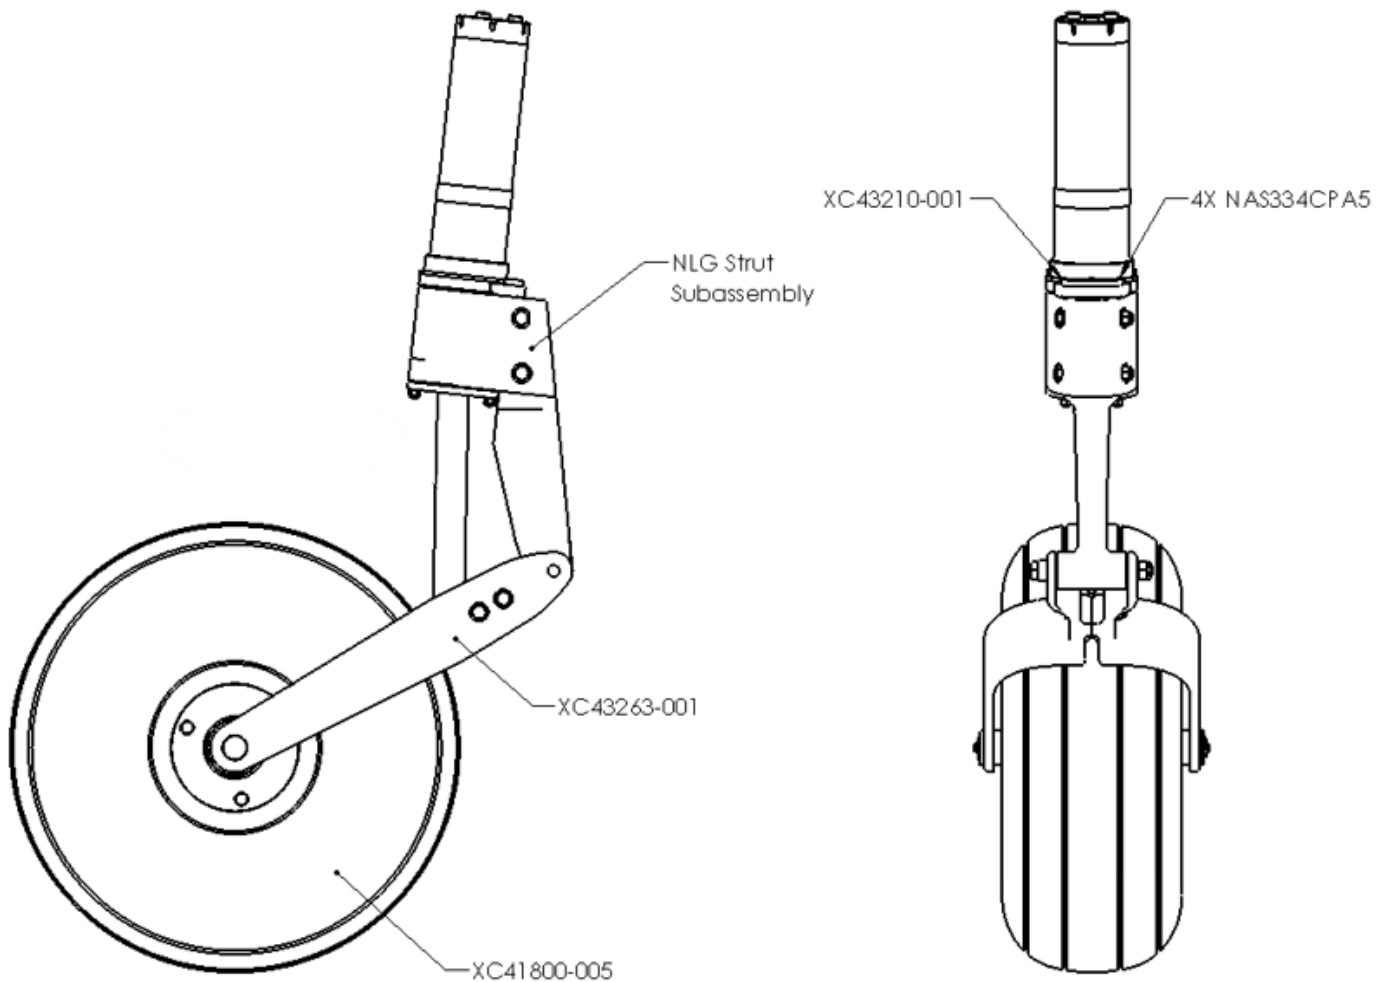
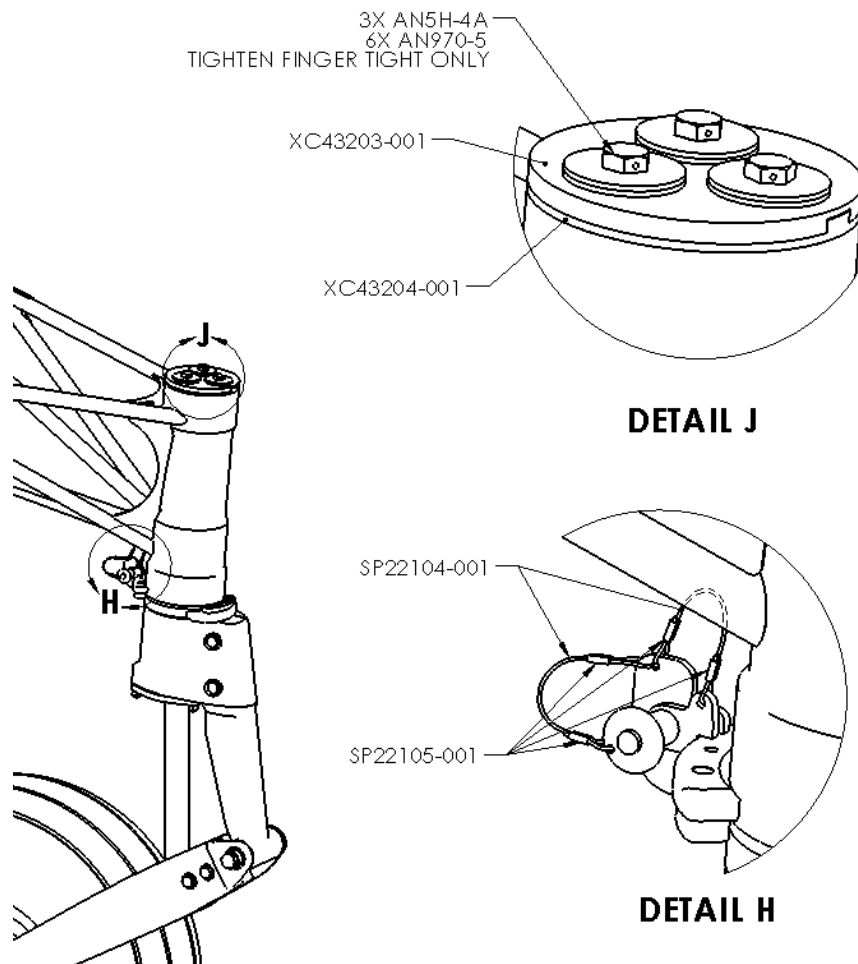

Figure 1 – Nose Gear Subassembly
Figure 5 – Strut Tension Bolts and Rotational Stop Pin
5. Preassemble nose gear subassembly and truss in accordance with Figure 1 through Figure 5.
Note: Set a strip of masking tape, or otherwise flag the three screws that have been finger tightened only (Figure 5 – Detail J). This will serve as a reminder that these bolts still need to be tightened.